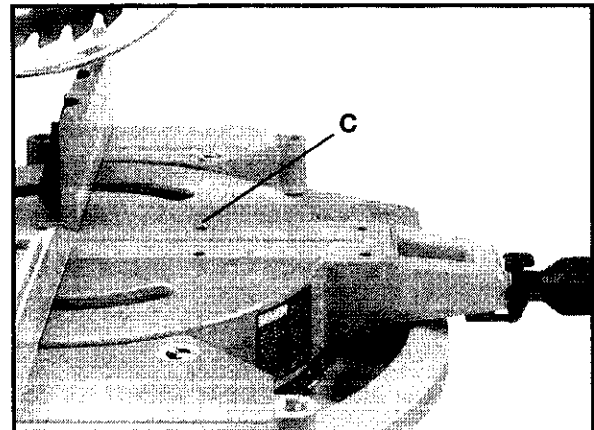

Fig. 7
2. Fig. 7, illustrates the table (C) in the 0 degree straight cut-off position.